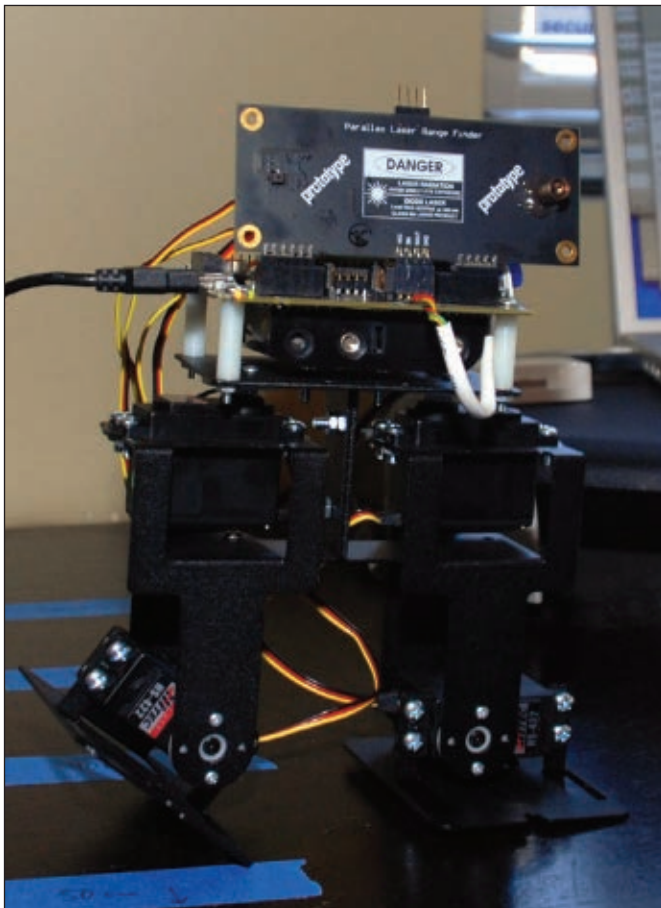

FIGURE 8. Demo — FSLBOT.
- **Proximity Sensing Robot.** Using Freescale's FSLBOT robot platform (<http://freescale.com/mechbot/>), the LRF module is mounted to the robot's head and interfaced directly to the MCF52259 ColdFire processor on the TWR-MECH board (**Figure 8**). The robot walks/waddles forward until it becomes too close to an object, then stops until the object goes away. Video: www.youtube.com/watch?v=bvmT9h9ghk0.
FIGURE 8. A wireless version of VEX control glove with three flexible resistors, two potentiometers, and five pushbutton switches connected to the VEX RC receiver.